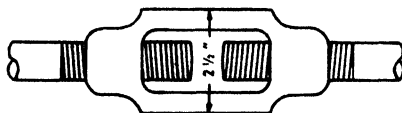

FIG. 71. TURNBUCKLE.
8. A turnbuckle, Fig. 71, on a large draw rod is  $2\frac{1}{2}"$  across. A mechanic tightens this turnbuckle with a wrench having a 16" handle. If he exerts a pull of 20 lbs. on the wrench (a) what resistance does the turnbuckle offer? (b) what is the M. A. of the wrench? Make a diagram showing to what class of levers this wrench belongs.